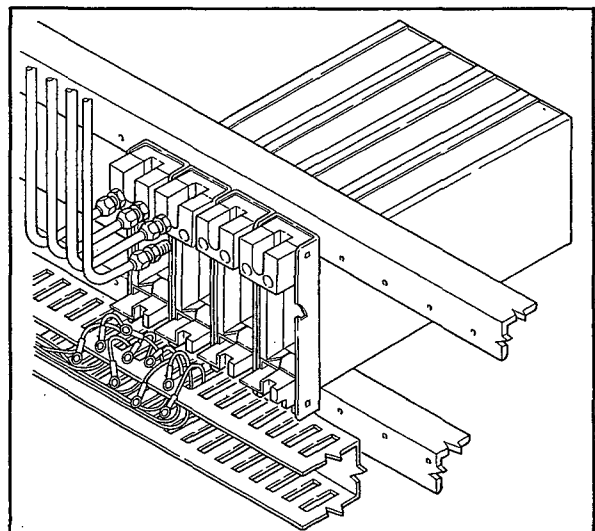

Figure 3-4. Routing the Wire.
- (2) Pass the signal cables through the lower cable duct (see Figure 3-4). For terminal wiring details, refer to section 3-4.